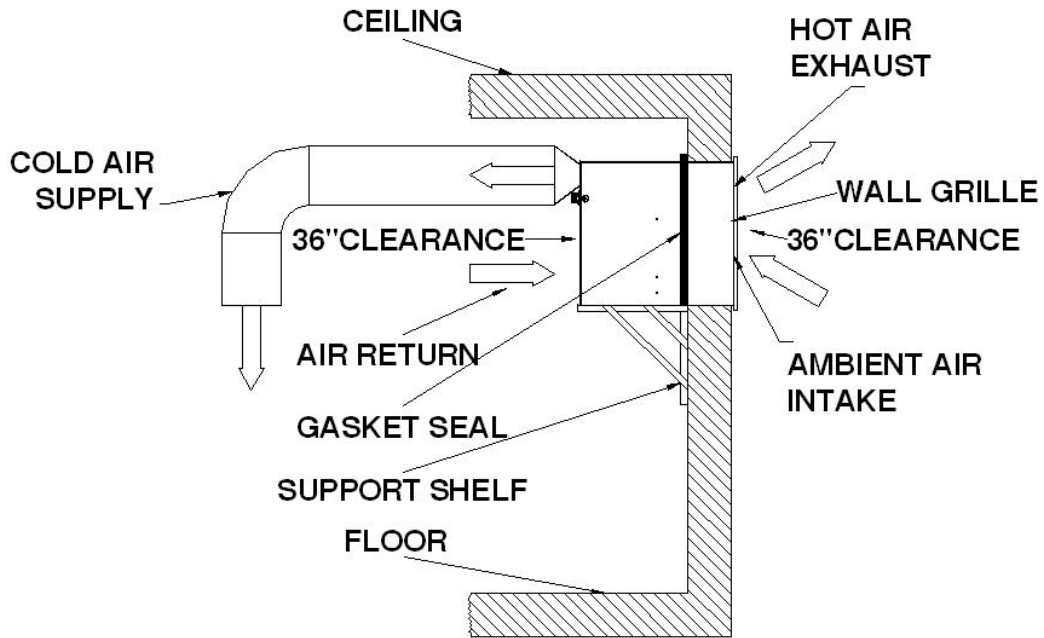

Fig. 6 Flush to the outside of wall with wall grille and cold-air supply duct
3. Through-wall installation with cold-air supply ducts (Fig 6 & 7)